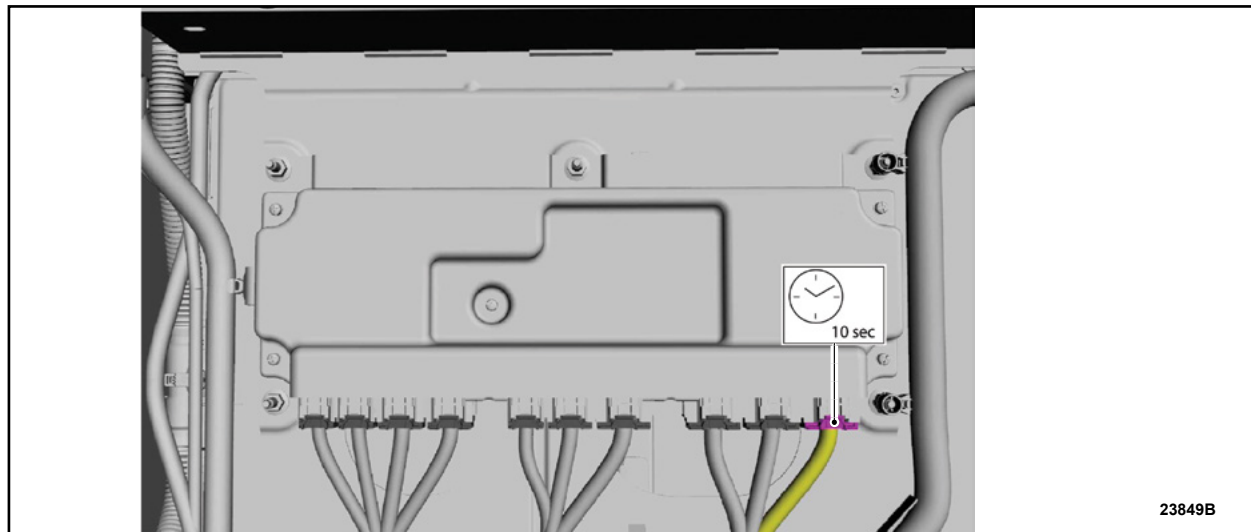

FIGURE 2
⚠ NOTICE: Wait 10 seconds after disconnect the BECM electrical connector shown, See Figure 2, before disconnecting the remaining electrical connectors or component damage may occur.
4. Disconnect the BECM electrical connector. See Figure 2.